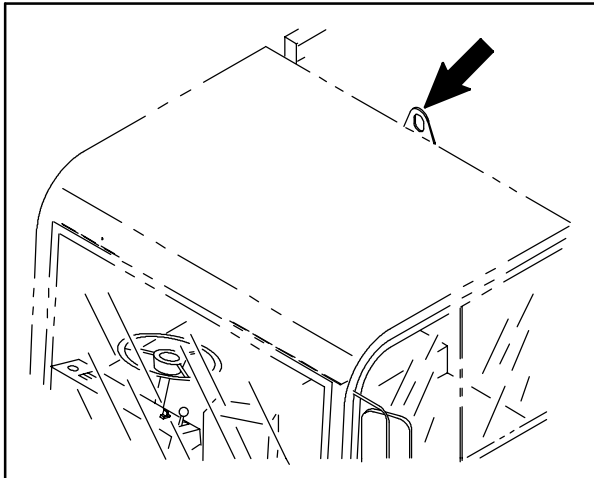

FIG. 3
1. Hook the overhead hoist chain to the lift bracket located at the top rear of the cab. Refer to Fig. 3.